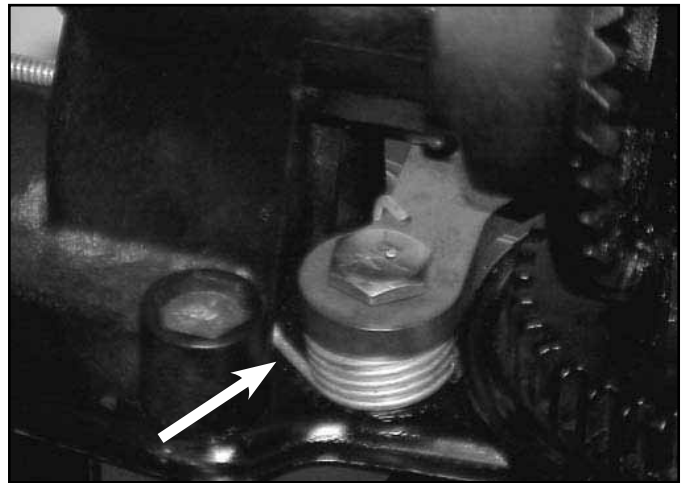

Fig 226
5. One end of the spring hooks over the chute latch, the "L" end rests against the front edge of the face gear mount (Fig. 226).